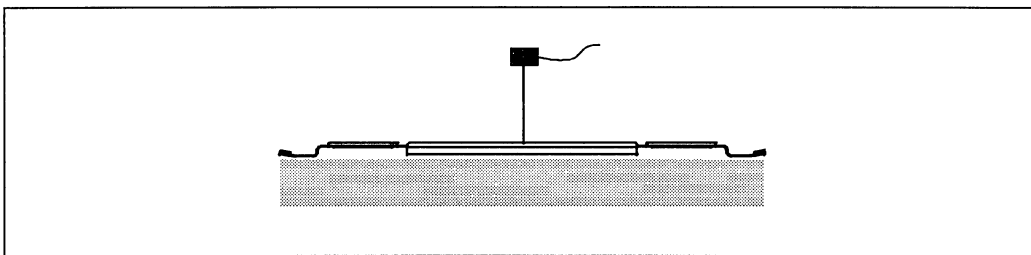

Figure 34-7. Technique for Measuring Case Temperature ( $T_C$ )
- The thermocouple should be attached at a 90° angle as shown in Figure 34-7.